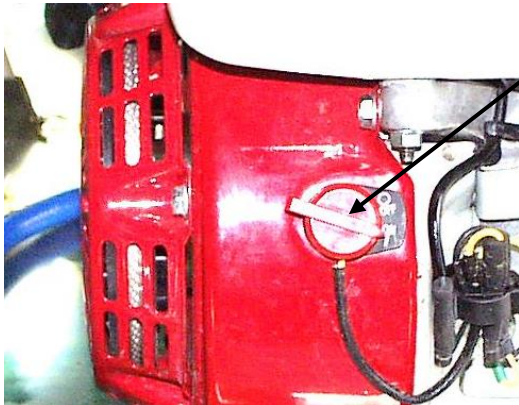

Fig 2
- Set start lever to ON (Fig. 2)